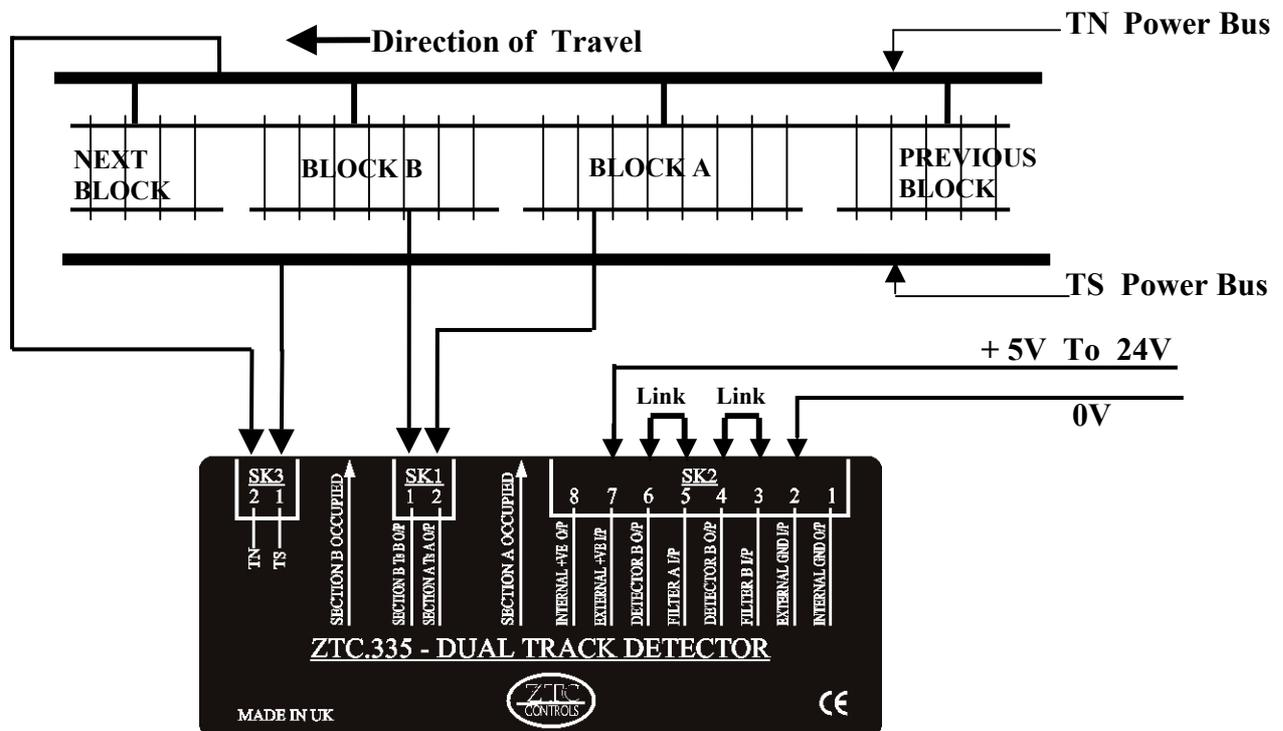

FIGURE 1
3.1 The basic connection to the DCC Power Bus for ZTC 335 Dual Track Detector Module, is shown in figure 1.
- 3.2 It is important, that for the ZTC 335 to operate, that the track is broken up into a minimum number of two sections, which is also shown in Figure 1. When installing more than one ZTC335 on a layout, it is only necessary to cut one of the rails, but it must be the same rail on the same side of the track for the whole layout, cut only TN or TS rails each time and not a combination of TN and TS as this will breach the optical isolation in the unit.
- 3.5 The current flowing through this connector to the track and then to the locomotive is measured by the detector circuit and used to operate the outputs. The input circuitry is separated from the output circuitry by a device called an Opto-coupler. This is used to maintain total electrical isolation between the input and outputs of the ZTC 335. To maintain this isolation a separate power supply must be connected to pins 2 & 7 of socket marked SK2. The positive supply should be connected to Pin 7 and 0 Volt supply should be connected to Pin 2. (See Figure 1)